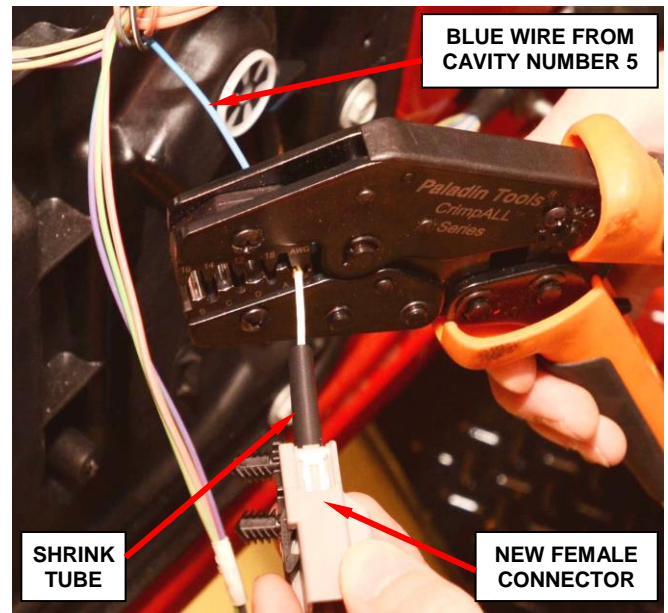

Figure 7 – Crimp Wires Together
13. Using crimp tool (special tool 10042) and the supplied brass crimps, crimp the short two inch long wire on the new female connector to the blue wire on the wiring harness (Figure 7).